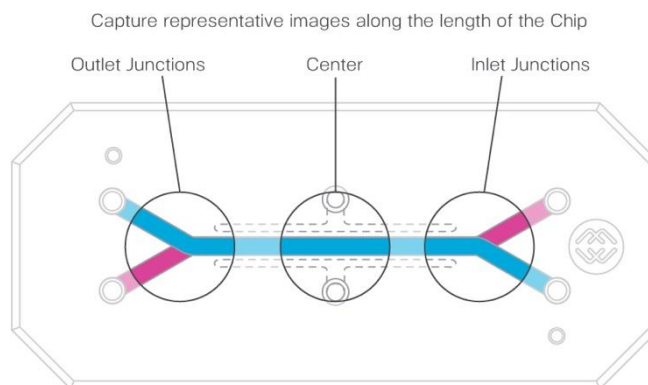

Figure 15: Capture representative images at 10X or 20X magnification at the following locations:
4. Using a microscope, inspect cells in the chips to assess morphology and viability. Capture representative images at 10X or 20X magnification (Reference Figure 15 below)